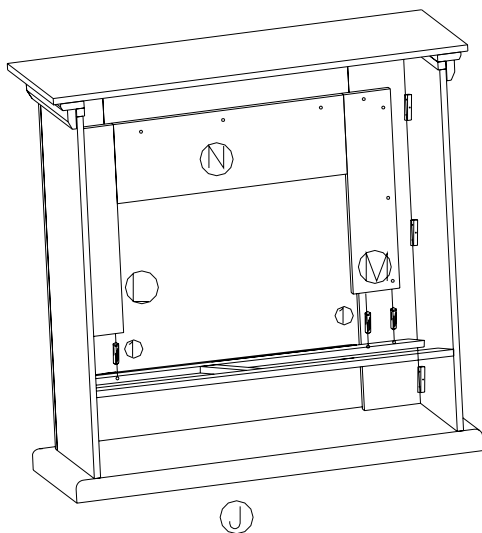

**FIGURE 6**
8. PLACE TOP PANEL (K) ON TOP EDGES OF THE ASSEMBLED ABOVE UNIT. INSERT WOOD SCREWS (5) THROUGH PREDRILLED HOLES ON PARTS (D, E, G, H, I, L) AND TIGHTEN INTO CORRESPONDING HOLES ON INSIDE OF TOP PANEL (K). AS FIGURE 6 SHOWN.